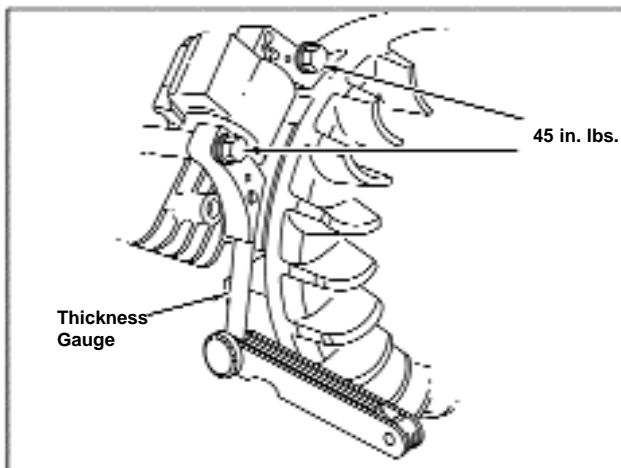

Figure 69 - Magnet Under Armature
2. Tighten both screws to 45 in. lbs.(52 kgcm/kpcm). See Figure 69.